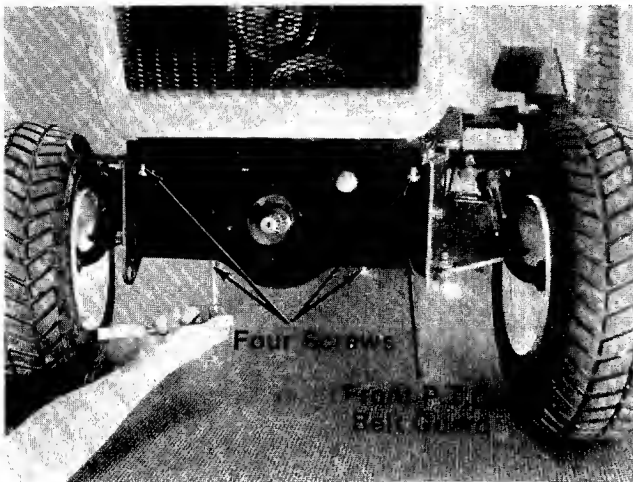

FIGURE 23.
1. Take off the front PTO belt guard assembly by removing four hex screws. See figure 23.